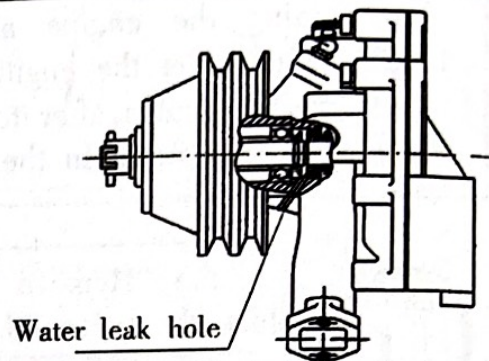

Fig 3-21 Check Water Leakage
5.6 Check water leakage of water pump. Change the water sealing of water pump as necessary (see Fig3-21).